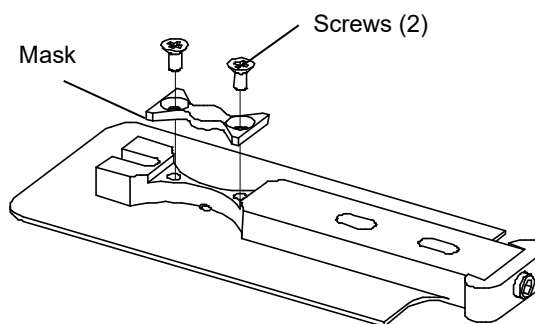

Figure 11 • Installing a mask on the Si, Ge or ZnSe sampling plate
- Unscrew the two screws (Figure 11) on the bottom of the sampling plate.